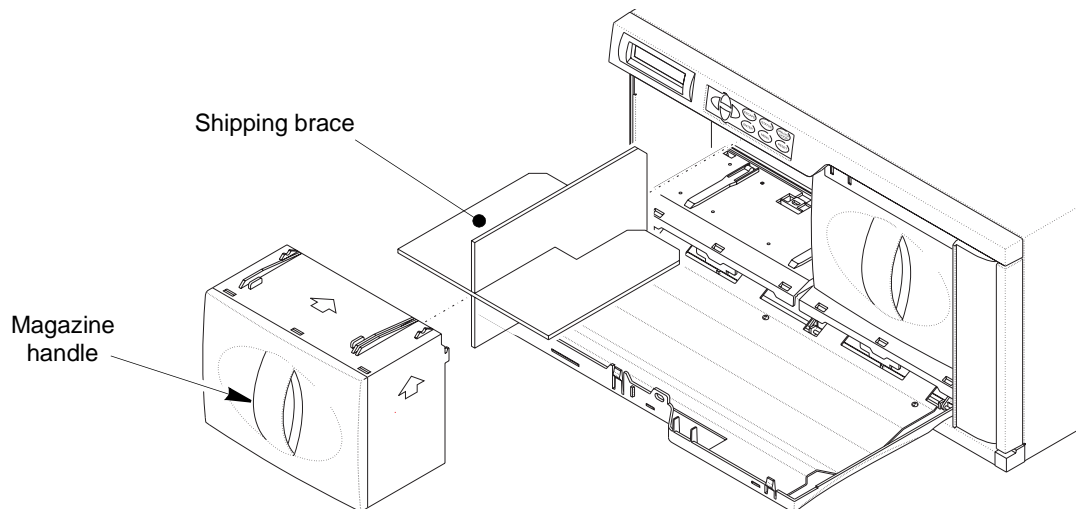

Figure 2-2 Removing the robot shipping brace
3. From inside the door, remove the magazine on the left side by grasping the handle, shown in Figure 2-2, and pulling the magazine straight out.
4. Remove the robot shipping brace from the magazine, as shown in Figure 2-2.